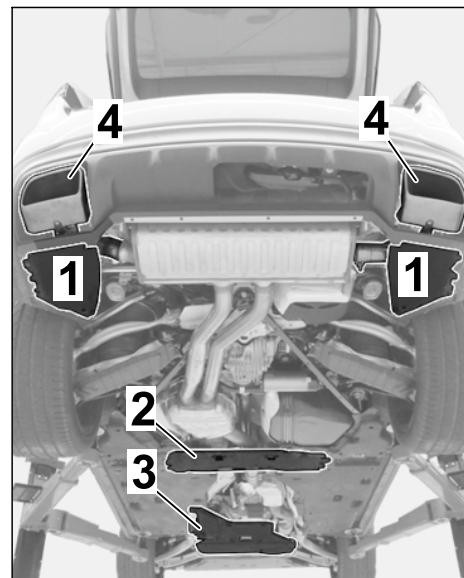

Figure 6
1.4.1 Remove rear underbody cover and rear tunnel cover (⇒ *Figure 6 -1 and 2-*, ⇒ *Workshop Manual '519419 Removing and installing cover for rear underbody'*).
1.4.2 Remove tailpipes (left/right) (⇒ *Figure 6 -4-*, ⇒ *Workshop Manual '263419 Removing and installing tailpipe'*).